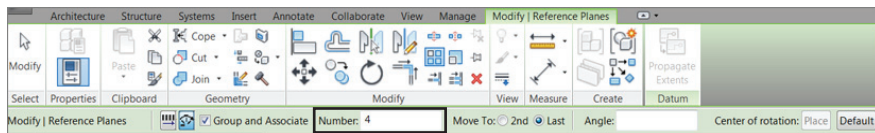

FIGURE 4.12: Setting the options for the Radial array
3. With the Array command active, some choices become available on the Options bar, as shown in Figure 4.12. For this procedure, click the Radial button.